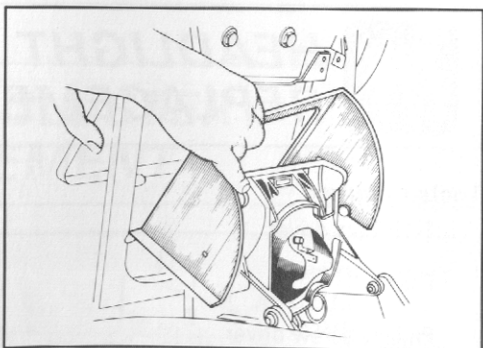

Figure 4 - Removing plastic bezel
10. Hold the spring-loaded headlight door open with one hand and remove the black plastic outer bezel by moving it up and then back over the headlight assembly (toward the passenger compartment). See Figure 4.